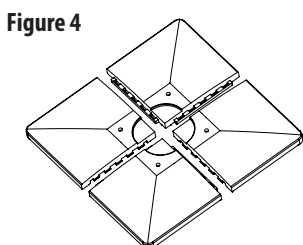

Figure 4
1. Lay out the four corner sections to form a square with male and female connections lined up as shown below. Snap the four corner sections together by inserting the male connections into the female slots. FIGURE 4